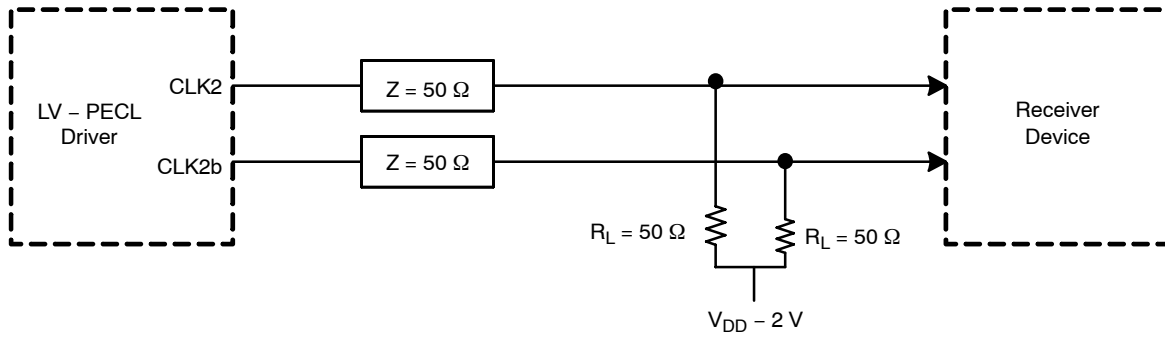

Figure 2. Typical Termination for Output Driver for Device Evaluation
5. Measurement taken with outputs terminated with 50  $\Omega$  to  $V_{DD} - 2\text{ V}$ . See Figure 2.